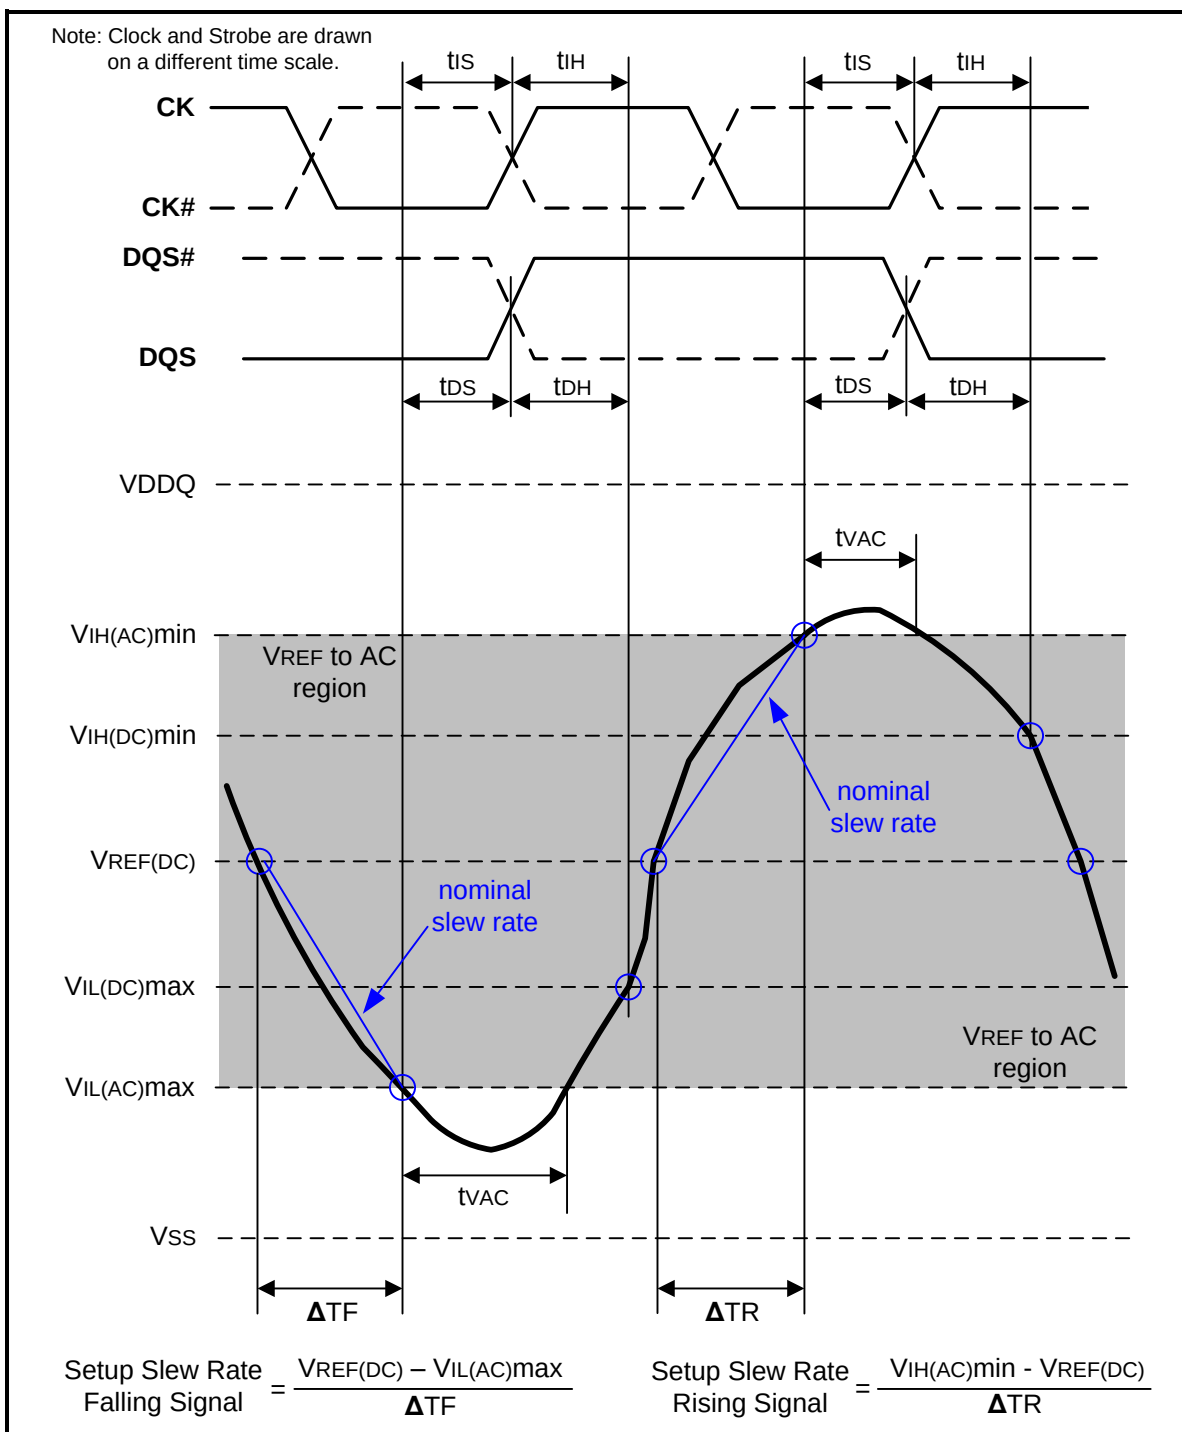
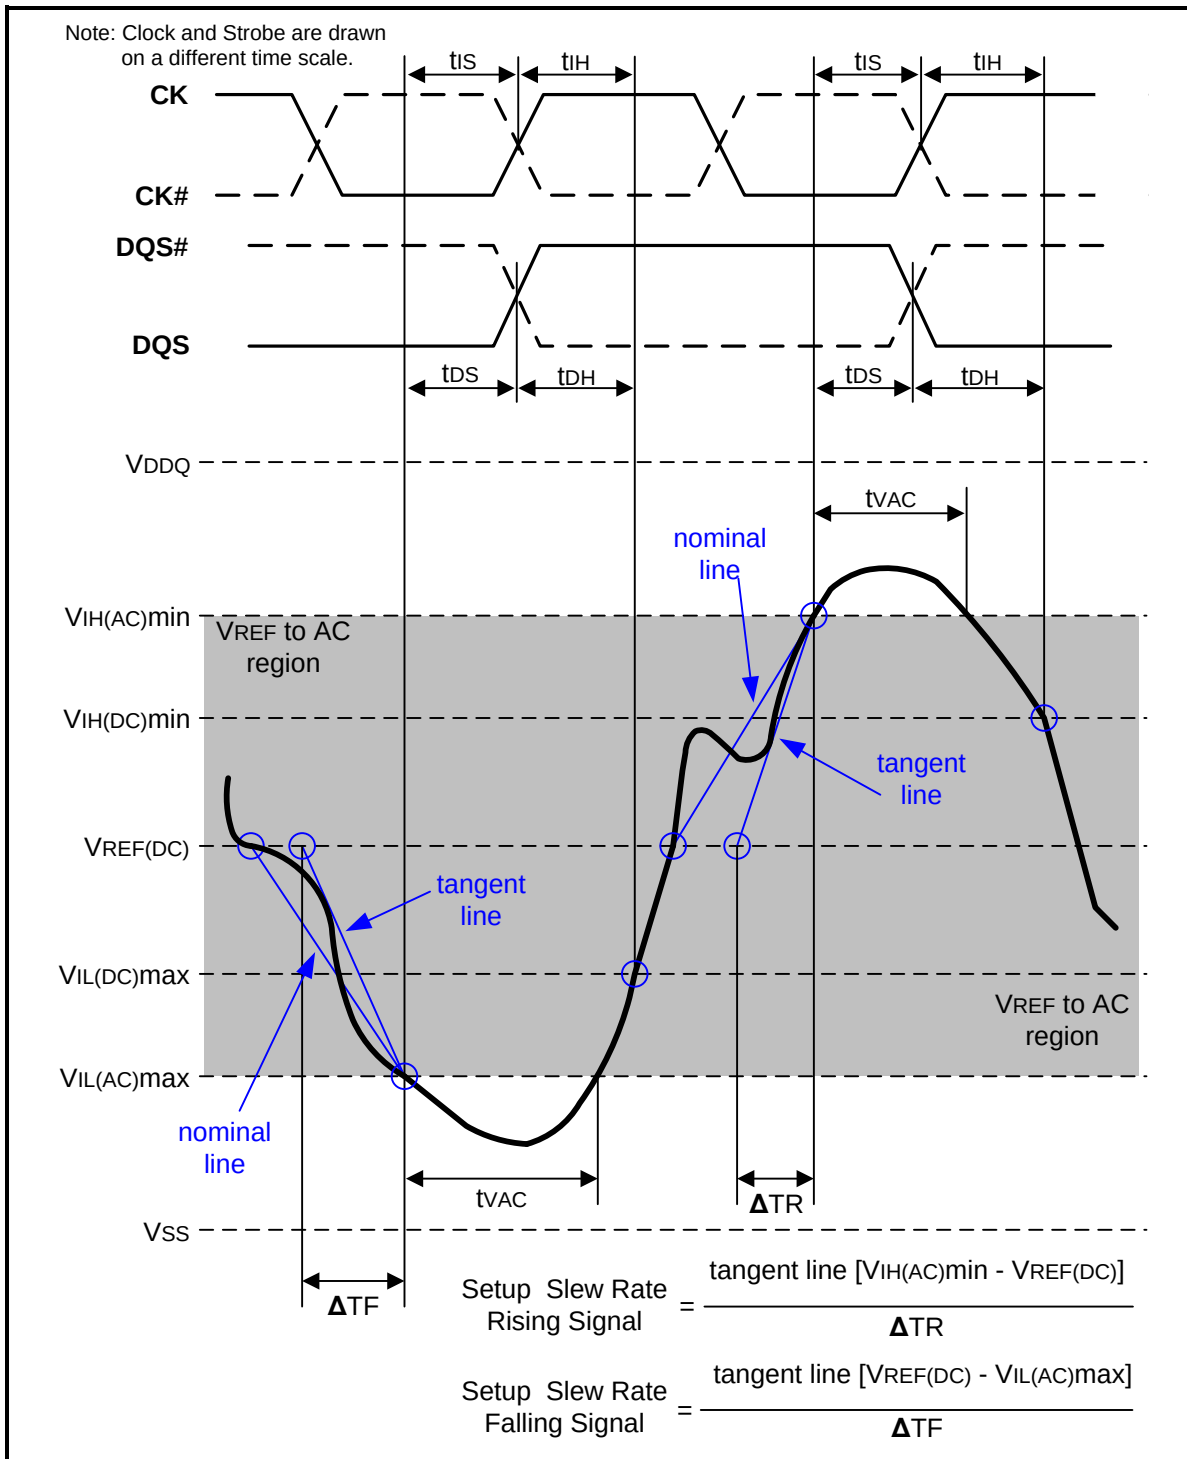

Figure 107 – Illustration of nominal slew rate and tv_{AC} for setup time t_{DS} (for DQ with respect to strobe) and t_{IS} (for ADD/CMD with respect to clock)
Figure 109 – Illustration of tangent line for setup time t_{DS} (for DQ with respect to strobe) and t_{IS} (for ADD/CMD with respect to clock)
Setup (t_{IS}) nominal slew rate for a rising signal is defined as the slew rate between the last crossing of $V_{REF}(\text{DC})$ and the first crossing of $V_{IH}(\text{AC})_{\text{min}}$. Setup (t_{IS}) nominal slew rate for a falling signal is defined as the slew rate between the last crossing of $V_{REF}(\text{DC})$ and the first crossing of $V_{IL}(\text{AC})_{\text{max}}$. If the actual signal is always earlier than the nominal slew rate line between shaded 'VREF(DC) to AC region', use nominal slew rate for derating value (see Figure 107). If the actual signal is later than the nominal slew rate line anywhere between shaded 'VREF(DC) to AC region', the slew rate of a tangent line to the actual signal from the AC level to $V_{REF}(\text{DC})$ level is used for derating value (see Figure 109).
Setup (tDS) nominal slew rate for a rising signal is defined as the slew rate between the last crossing of VREF(DC) and the first crossing of VIH(AC)min. Setup (tDS) nominal slew rate for a falling signal is defined as the slew rate between the last crossing of VREF(DC) and the first crossing of VIL(AC)max (see Figure 107). If the actual signal is always earlier than the nominal slew rate line between shaded 'VREF(DC) to AC region', use nominal slew rate for derating value. If the actual signal is later than the nominal slew rate line anywhere between shaded 'VREF(DC) to AC region', the slew rate of a tangent line to the actual signal from the AC level to VREF(DC) level is used for derating value (see Figure 109).